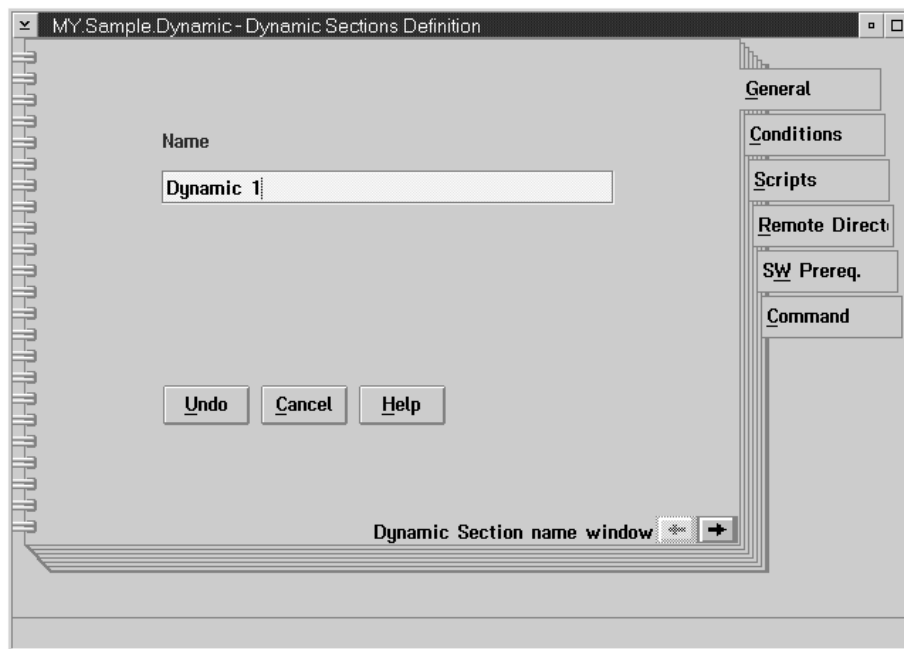

Figure 87. Dynamic sections definition notebook: general page
- 7 Click on the **Open...** push button. The Dynamic Sections - Definition notebook is displayed, as shown in Figure 87 on page 175.